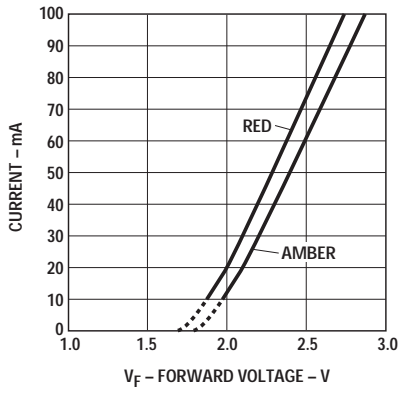

Figure 2b. Forward current vs. forward voltage
- For option not -xxRxx, -xxSxx, -xxTxx, -xxUxx, -xxWxx, -xxYxx, please refer to Figure 2b.